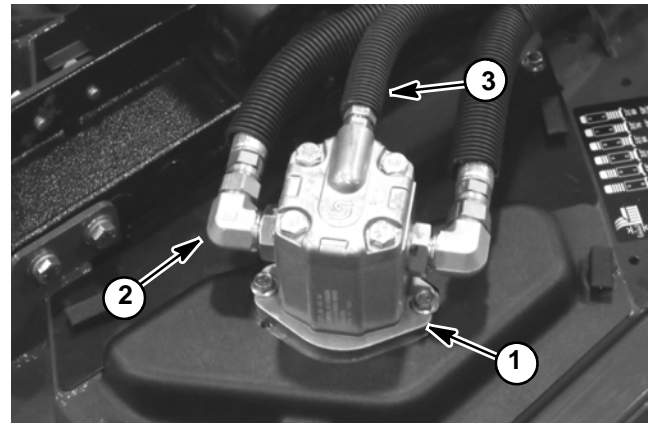

Figure 43
3. Disconnect hose from return of the motor to be tested (Fig. 43). Install tester (flow and pressure) in series with the motor and disconnected return hose. Make sure the flow control valve on tester is fully open.